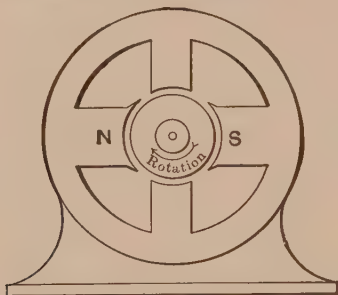

FIG. 164.
**Prob. 54.** Show a magnetic path in the commutating pole motor, Fig. 164, with two main poles. Mark the polarity of the commutating poles.
**Prob. 55.** Show the winding of all poles of the motor in Fig. 164, and the direction of current in the windings.
**Prob. 56.** If the machine in Fig. 164 is to run as a self-excited shunt generator, show: